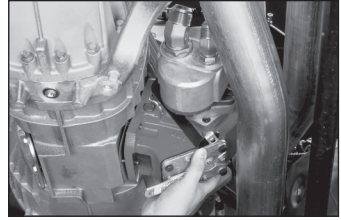

Fig. 15
16. Secure P.T.O./Pump to the transmission. (Fig. 15)